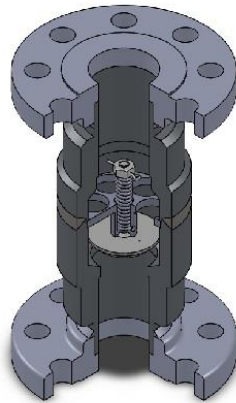

Figure 1: Valve Drawing
8. Ensure gaskets are properly positioned on each end of valve before proceeding (see Figure 1).